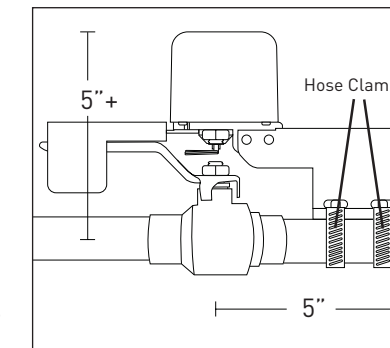

Figure 3
The Water Main Shut-Off can be installed on any preexisting 1/2" to 1 1/2" brass ball valve, at least 5" away from any walls or other obstructions. Examine Figure 3 and make sure there is enough room in your plumbing installation to accommodate the Shut-Off.
5. Loosely tighten the hose clamps around the pipe on the opposite side of the valve handle so it remains movable (fig 3.)